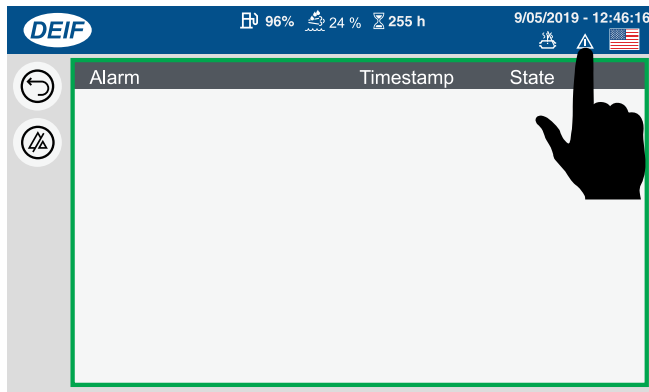

Figure 210. Alarm Screen (Alarm Icon Button)
2. Press the **X button** (Figure 209) on the pop-up screen to close the pop-up and view the **Alarm screen** (Figure 210).
3. Press the **Alarm Icon button** (Figure 210) located in the upper right-hand corner of the Alarm screen to view a list of active alarms.
6. Press the **Alarm Icon button** (Figure 210) whenever it is present on the status bar to identify specific alarms that are active. Perform steps 1–5 to clear any alarms that may appear during operation. Refer to Table 14 for a complete list of fault codes.